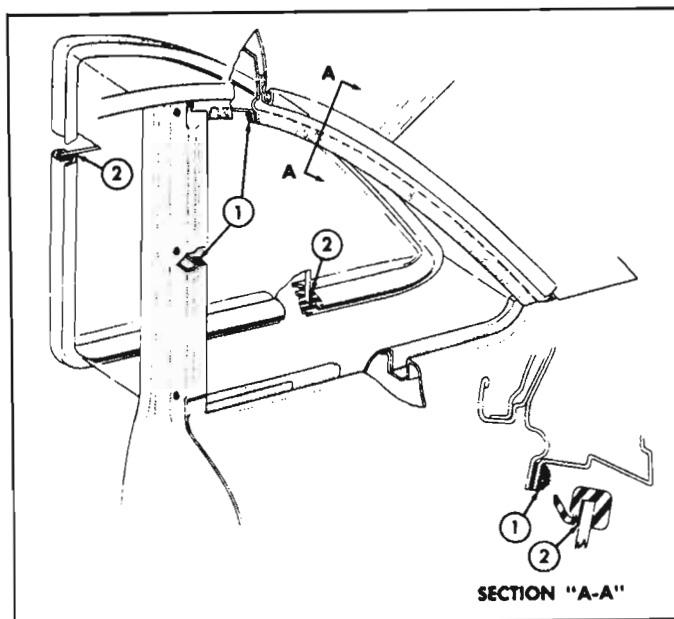

Fig. 10-93—Rear Quarter Stationary Window Sealing
2. Apply a ribbon of medium-bodied sealer along the inboard surface of the side roof rail and body lock pillar quarter window flanges, as indicated at "1" in Figure 10-93.
4. Install loosely the three (3) rubber channel and glass retainers.
5. Using a pressure type applicator, apply weather-strip adhesive (black) between rubber channel and glass on outside of glass, as indicated at "2" in Figure 10-93, completely around glass.